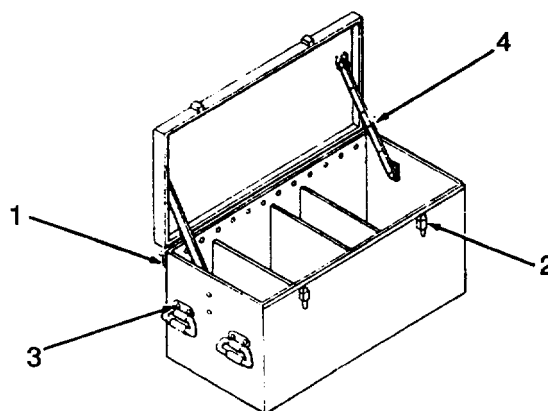

Figure 3-1. Chest Assemblies, Lubrication.
a. Chest Assemblies. (Figure 3-1)
- (1) Apply a coat of general purpose oil to hinge (1).
- (2) Apply a coat of general purpose oil to latches (2).
- (3) Apply a coat of general purpose oil to pivot points of handles (3).
- (4) Apply a coat of general purpose oil to lid supports (4).